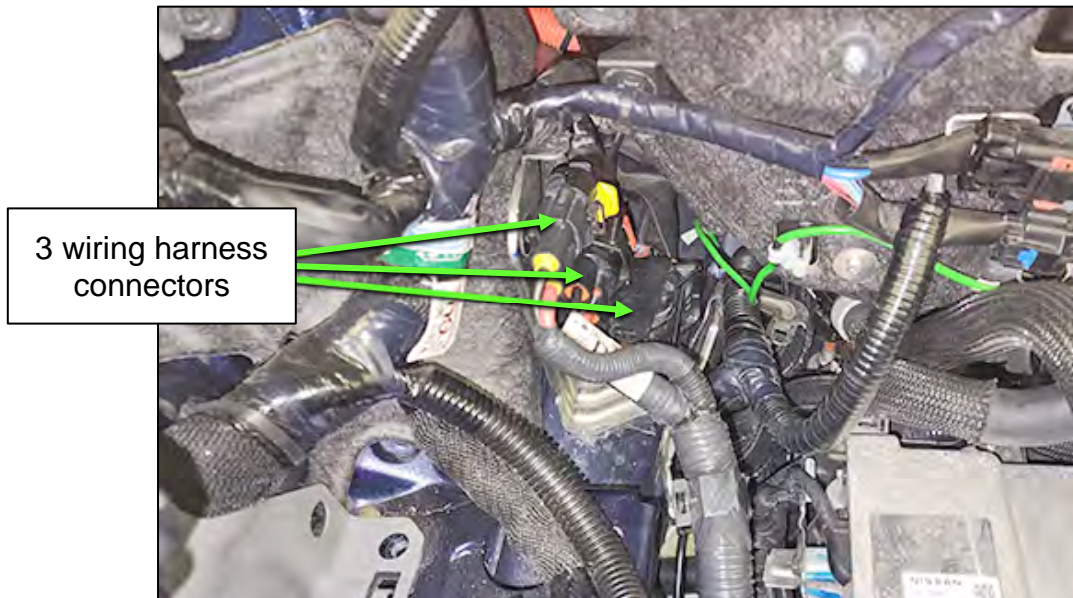
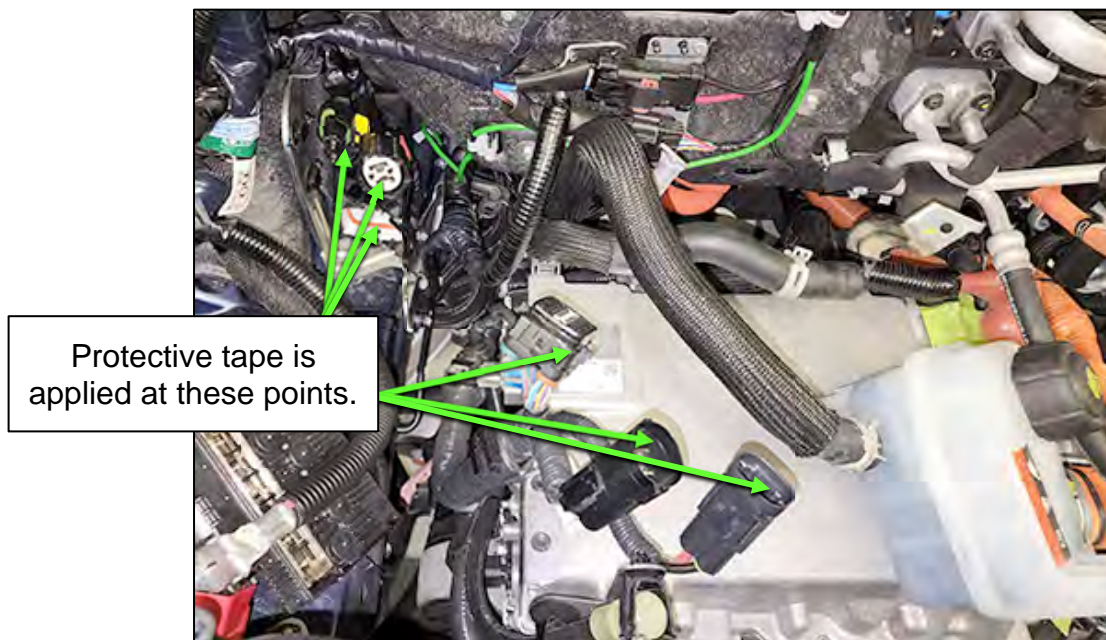

Figure 38
Figure 40
57. Disconnect three (3) wiring harness connectors (shown in Figure 38 below and Figure 40 on page 24).
- Push the upper two (2) wiring harness connectors toward the rear of the vehicle to release them from the bracket, and then disconnect the two (2) upper connectors.